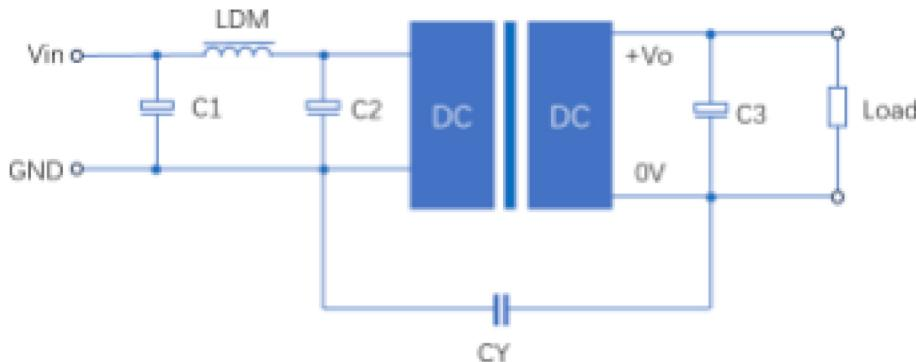

Figure 2: EMC Typical Recommended Circuits
Radiation disturbance	CISPR32/EN55032 CLASS B (The recommended circuit is shown in Figure 2 )
2. EMC requirements: For situations with high EMC requirements, a typical EMC recommended circuit is shown in Figure 2.